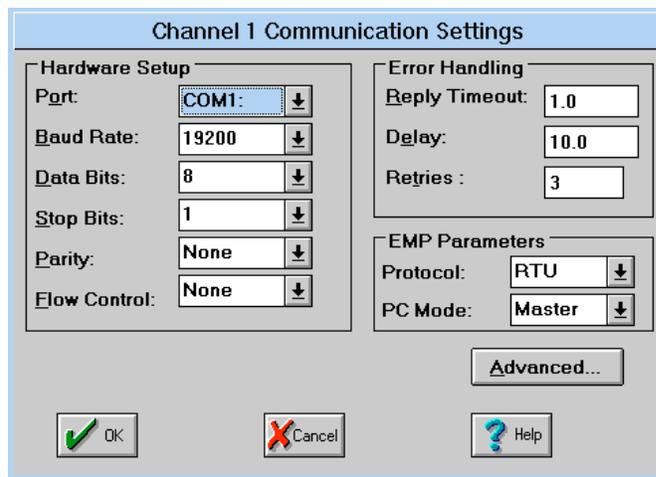

Figure 4-3 Channel Communication Settings Dialog Box
1. With the I/O Driver Configurator dialog box on your screen, select the Setup button, , to display the Channel Communication Setting dialog box, as shown in Figure 4-3. Enter the appropriate channel communication parameters for your hardware. Refer to **Section 5.2** for more information on using this dialog box.
NOTE: The parameters you enter into your Channel Communication Setting dialog box can differ from what is presented in Figure 4-3.